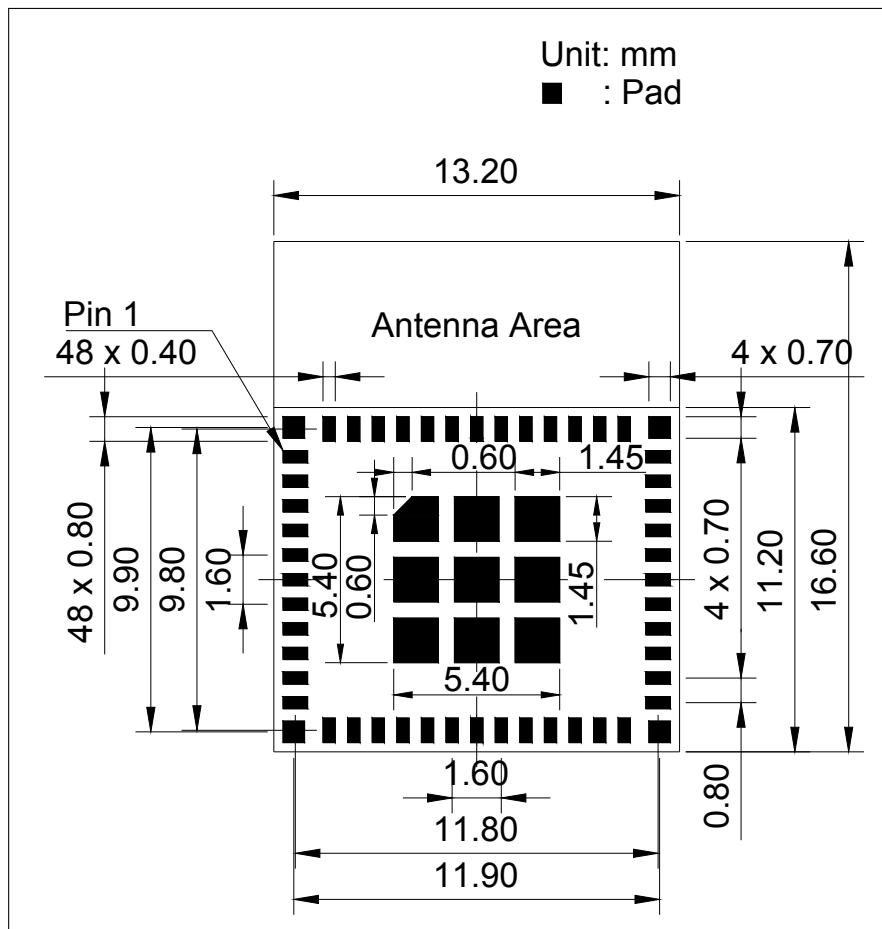

Figure 10: ESP32-C6-MINI-1 Recommended PCB Land Pattern
- Figures for recommended PCB land patterns with all the dimensions needed for PCB design. See Figure 10 *ESP32-C6-MINI-1 Recommended PCB Land Pattern* and Figure 11 *ESP32-C6-MINI-1U Recommended PCB Land Pattern*.
- Source files of recommended PCB land patterns to measure dimensions not covered in Figure 10 and Figure 11. You can view the source files for ESP32-C6-MINI-1 and ESP32-C6-MINI-1U with Autodesk Viewer.